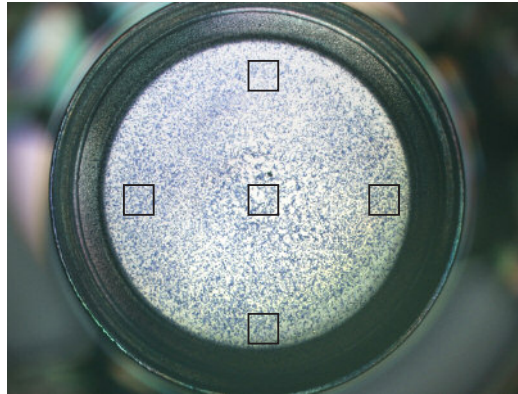

Figure 1. Example of 5 random fields to be counted.
5. Using a light microscope enumerate the number of stained cells in random fields within each Transwell® Insert (Figures 1 and 2).